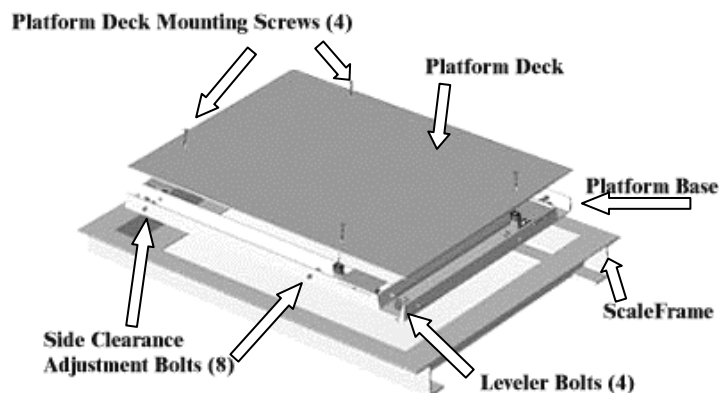

Figure 5: Hardware Placement
STEP 8: (Figure 5) Remove the platform deck from the base using a 5/32" hex wrench to remove the four (4) mounting screws and set aside.
STEP 11: (Figure 5) Set the deck onto the platform base and secure in place with the four (4) top mounting screws. Allow 1/8" gap between platform deck and floor.